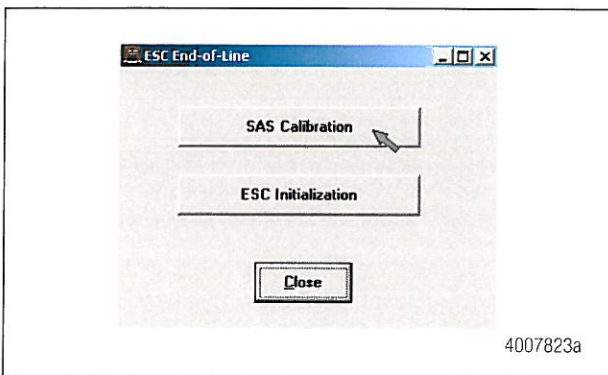

Figure 13
6. Click SAS Calibration in the message box. Figure 13.